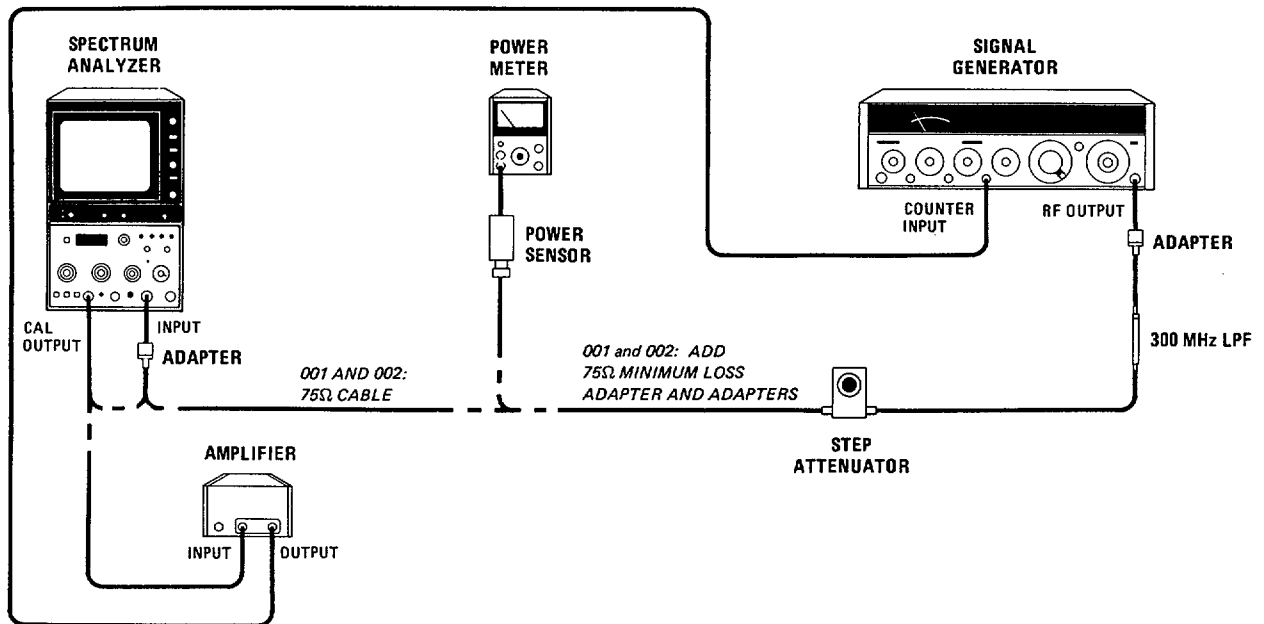

Figure 4-21. Calibrator Accuracy Test Setup
4. Set step attenuator to 10 dB and connect power sensor and power meter to attenuator as shown in Figure 4-21.